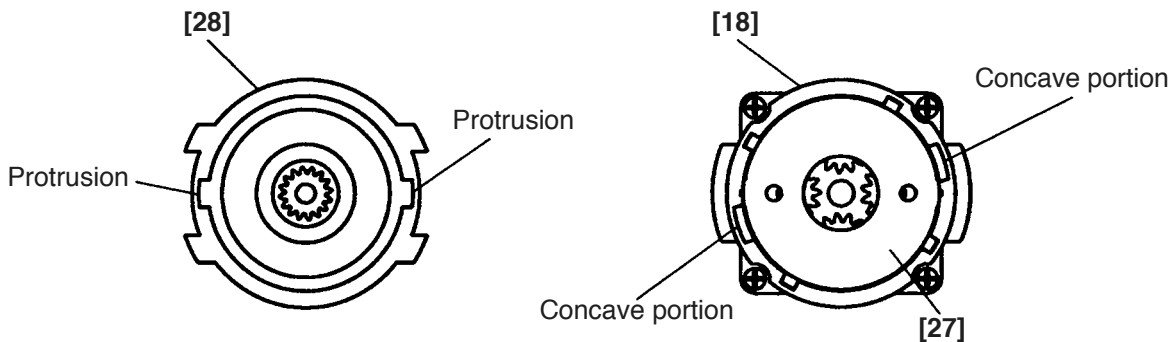

Fig. 11
(5) Reassembly of the drive unit
- (a) Fit the protrusion of the Motor Spacer [28] in the concave portion of the Rear Case [18] engaging the pinion of the Armature and Pinion Set [29] with Planet Gear (A) Set (4 pcs.) [25]. Turn it fully clockwise viewing from the rear of the Armature and Pinion Set [29] (see Fig. 11).